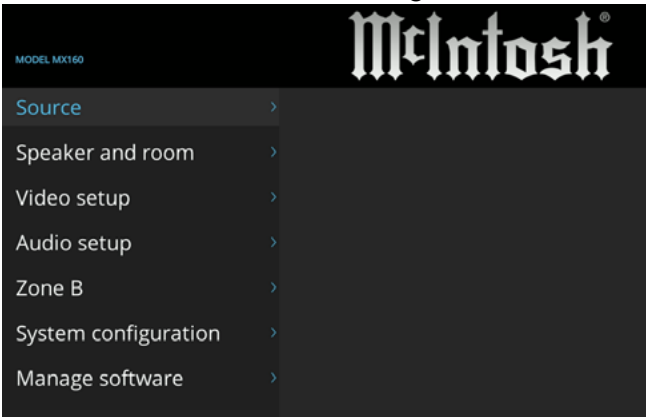

Figure 7
- 1. Press the SETUP Push-button on the Remote Control and the Main Setup Menu will appear on the Monitor/TV screen. Refer to figure 7.